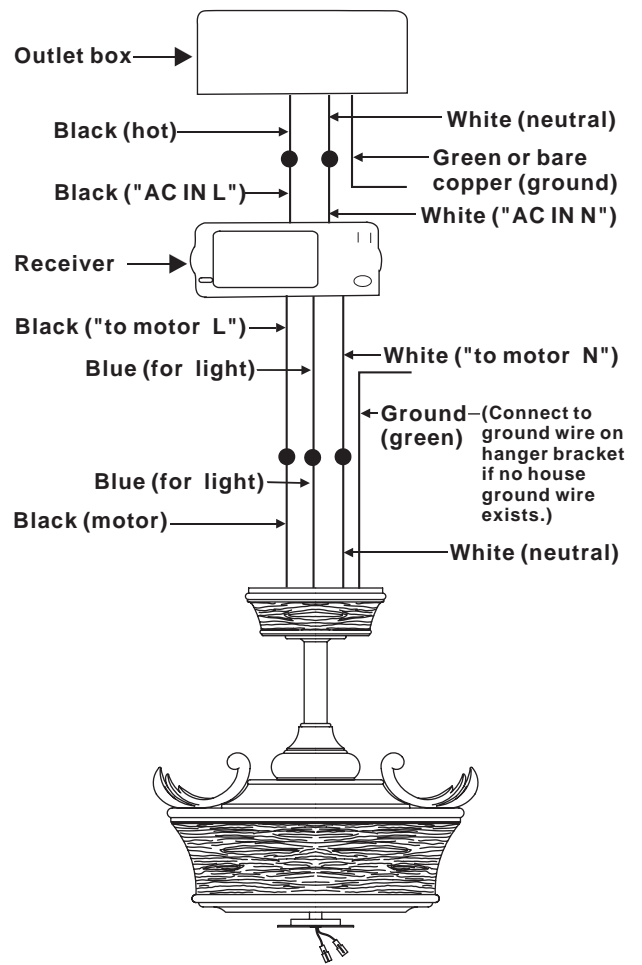

Figure 12
Step 2. (Fig. 12) Motor to Receiver Electrical Connections: Connect the black wire from the fan to black wire marked "TO MOTOR L". Connect the white wire from the fan to the white wire marked "TO MOTOR N" from the receiver. Connect the blue wire from the fan to the blue wire marked "For Light" from the receiver. Secure the wire connections with the plastic wire nuts provided.
Step 3. (Fig. 12) Receiver to House Supply Wires Electrical Connections: Connect the black (hot) wire from the ceiling to the black wire marked "AC in L" from the receiver. Connect the white (neutral) wire from the ceiling to the white wire marked "AC in N" from the Receiver. Secure the wire connections with the plastic wire nuts provided.
Step 4. (Fig. 12) If your outlet box has a ground wire (green or bare copper) connect it to the fan ground wires; otherwise connect the hanging bracket ground wire to the mounting bracket. Secure the wire connection with a plastic nut provided. After connecting the wires, spread them apart so that the green and white wires are on one side of the outlet box and black and blue wires are on the other side. Carefully tuck the wire connections up into the outlet box.